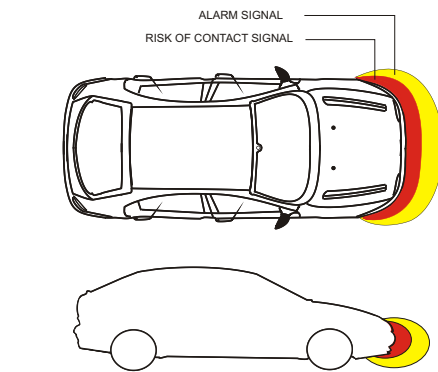

Fig. 6
D) Insert all plug-in connectors into the proper position on the Central Unit (ECU) as per Fig. 6.
PD1-FRONT is an innovative parking sensor that uses low energy electromagnetic waves and is able to detect the approach of any kind of obstacle. The activation of the device is obtained by pressing the activation button and confirmed by a signal of "OK". Once activated, the **PD1-FRONT** generates around the bumper, on which is installed, a protection zone (Fig. 6). When any obstacle present in the protection zone tends to approach the bumper you will hear a series of beeps.
- The distances will vary depending on the size of the obstacle and correspond to the central zone of the bumper; on the lateral edges the distances is less (see Figure 6)